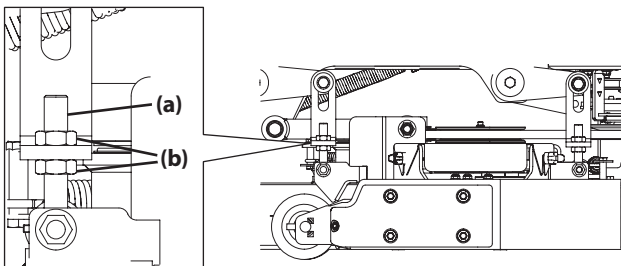

Figure 31
- Adjust the eyebolt (a) at the left front of the deck so that the blade-to-ground height at the right outside blade tip matches that of the left outside blade tip. This is done by loosening the jam nuts (b) on the eyebolt (a) and tightening the upper jam nut (b) to raise the deck and loosening the jam nut (b) to lower the deck. The right outer blade tip height is fixed by the right, front eyebolt (a) so you must adjust the left outer tip to match it (Figure 31).
- Loosen the jam nuts (b) at the rear left and right of the deck eyebolts (a) (Figure 31).